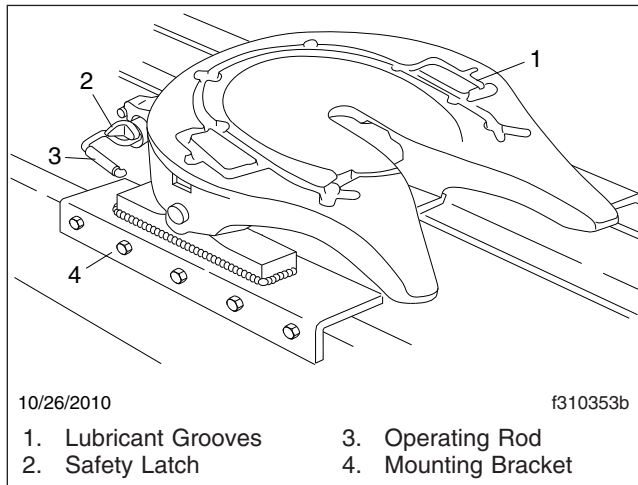
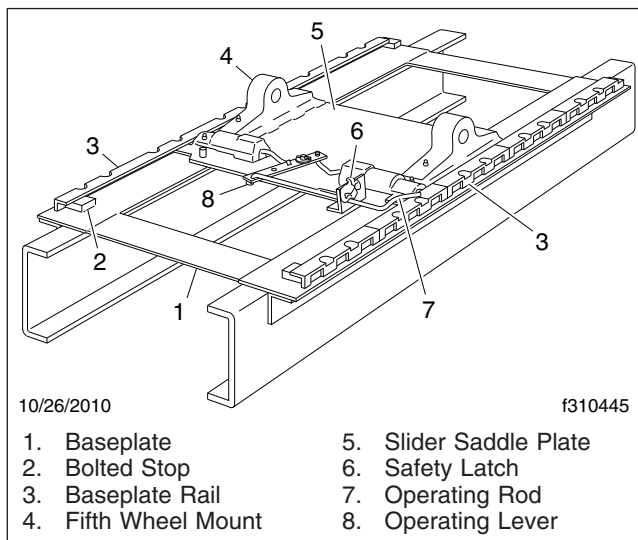

Fig. 10.8, Simplex Stationary Fifth Wheel
Fig. 10.9, Taperloc Slide, Manually Operated Release
The ASF Simplex series fifth wheels are used for pulling trailers having the standard 2-inch (51-mm) diameter kingpin. When installed as a stationary fifth wheel (Fig. 10.8), they are bracket-mounted to the tractor frame in a position that best distributes the trailer load over the tractor axles. When used as a sliding fifth wheel (Fig. 10.9), they are mounted on
The manually operated slide contains an operating rod (**Fig. 10.9**) that unlocks both sides of the plate at the same time.
- 3.2 For manually operated models, raise the safety latch and pull the slide operating rod (Fig. 10.9) outward until the shoulder is outside of the operating rod support, then lower the operating rod as far as it will go.